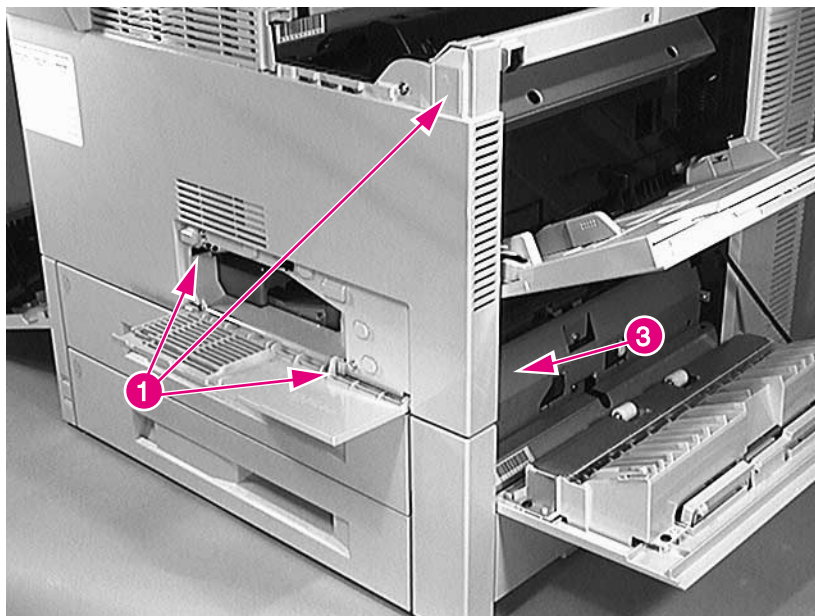

Figure 6-7 Front Cover (1 of 2)
- 2 Open the front access door, and remove 3 screws (figure 6-7, callout 1).
- 4 Carefully pull the bottom of the cover away from the chassis while moving it to the right to release the retaining tab (figure 6-7, callout 3).
- Front Cover (see figure 6-7 on page 274)